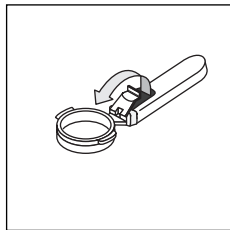
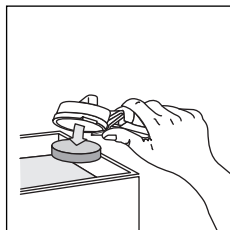

fig. 13
fig. 14
7. To remove the used coffee lock the filter with the built-in lever (fig. 13) and let the coffee fall out by knocking the over turned filter holder (fig. 14).